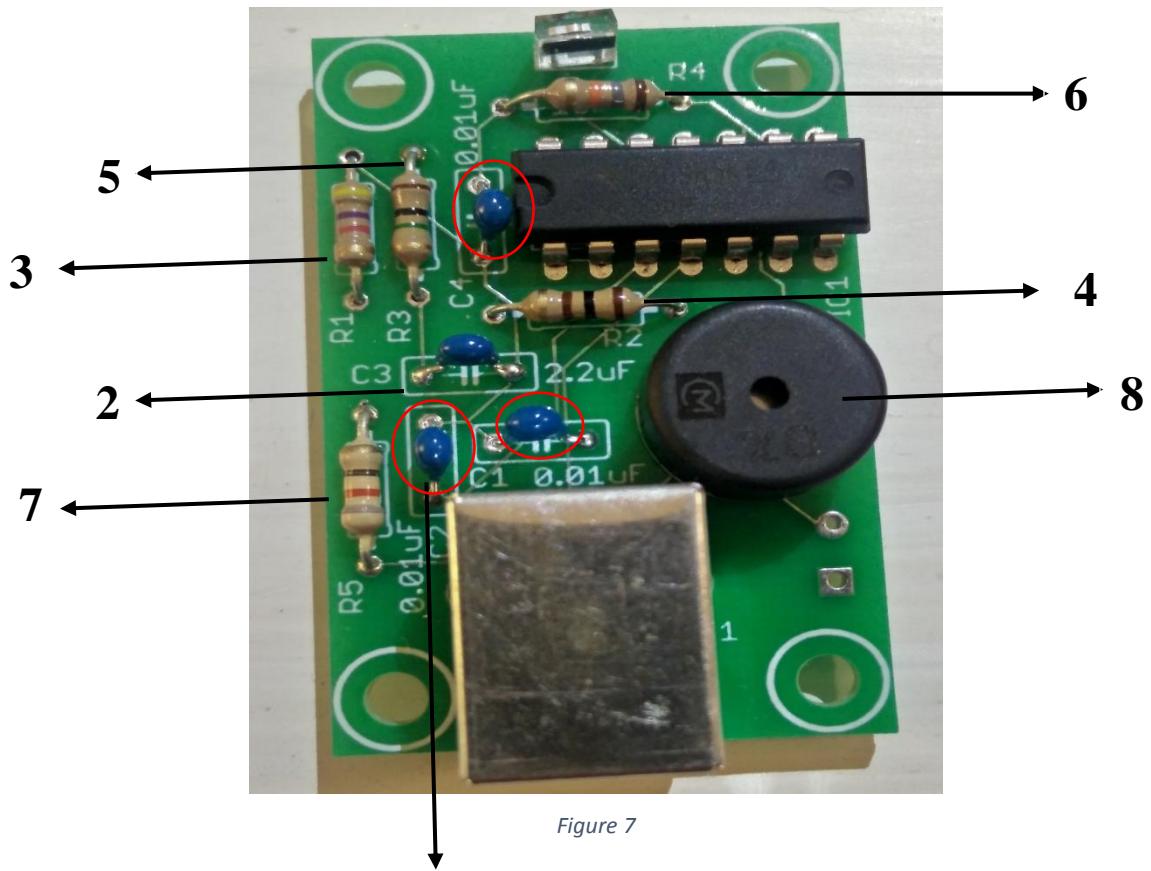

Figure 7
3. Install 4.7 k Ω resistor R1 (**yellow, violet, red, gold**) as shown in figure 7 below.
4. Install 100 Ω resistor R2 (**brown, black, brown, gold**) as shown in figure 7 below.
5. Install 1 M Ω resistor R3 (**brown, black, green, gold**) as shown in figure 7 below.
6. Install 18 k Ω resistor R4 (**brown, grey, orange, gold**) as shown in figure 7.
7. Install 220 Ω resistor R5 (**red, red, brown, gold**) as shown in figure 7 below.
1. Install the buzzer B1 as shown in **figure 7 above**. This component can be installed either way around.